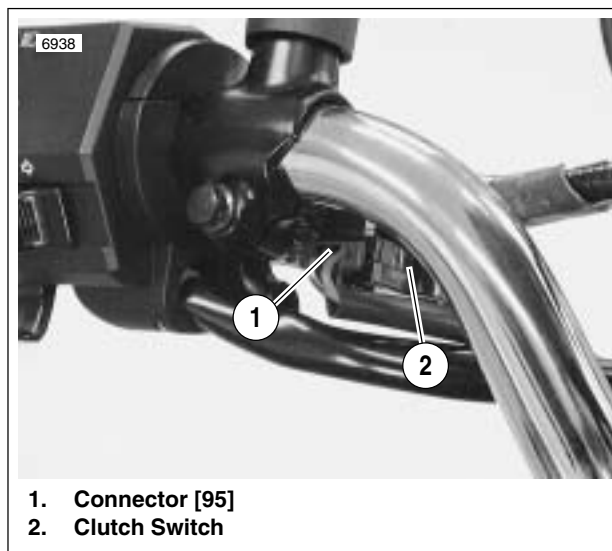

Figure 4-30. Clutch Switch
- By disengaging the clutch and grounding the relay through the clutch switch. See Figure 4-30.